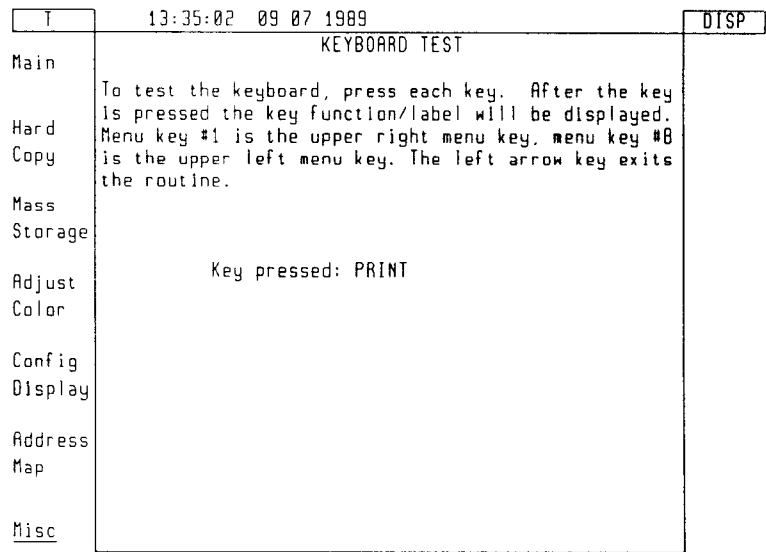

Figure 5-7. Key Test
- 3. Press any key on the display's front panel. The pressed key will be *echoed* on the screen if the key is working properly. See Figure 5-7.